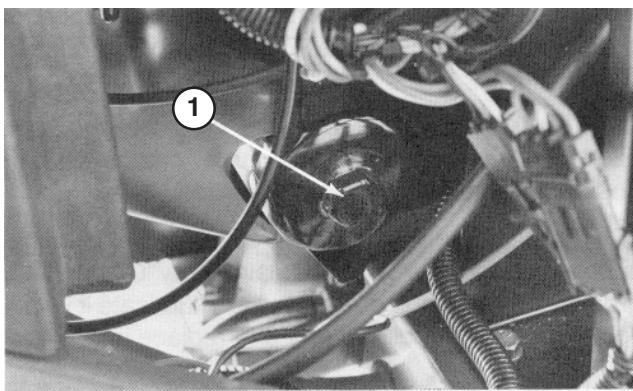

Figure 21
5. Remove the oil filter (Fig. 21) and discard it. Thoroughly clean the filter mounting surface and make sure that a new gasket is installed in the new filter.